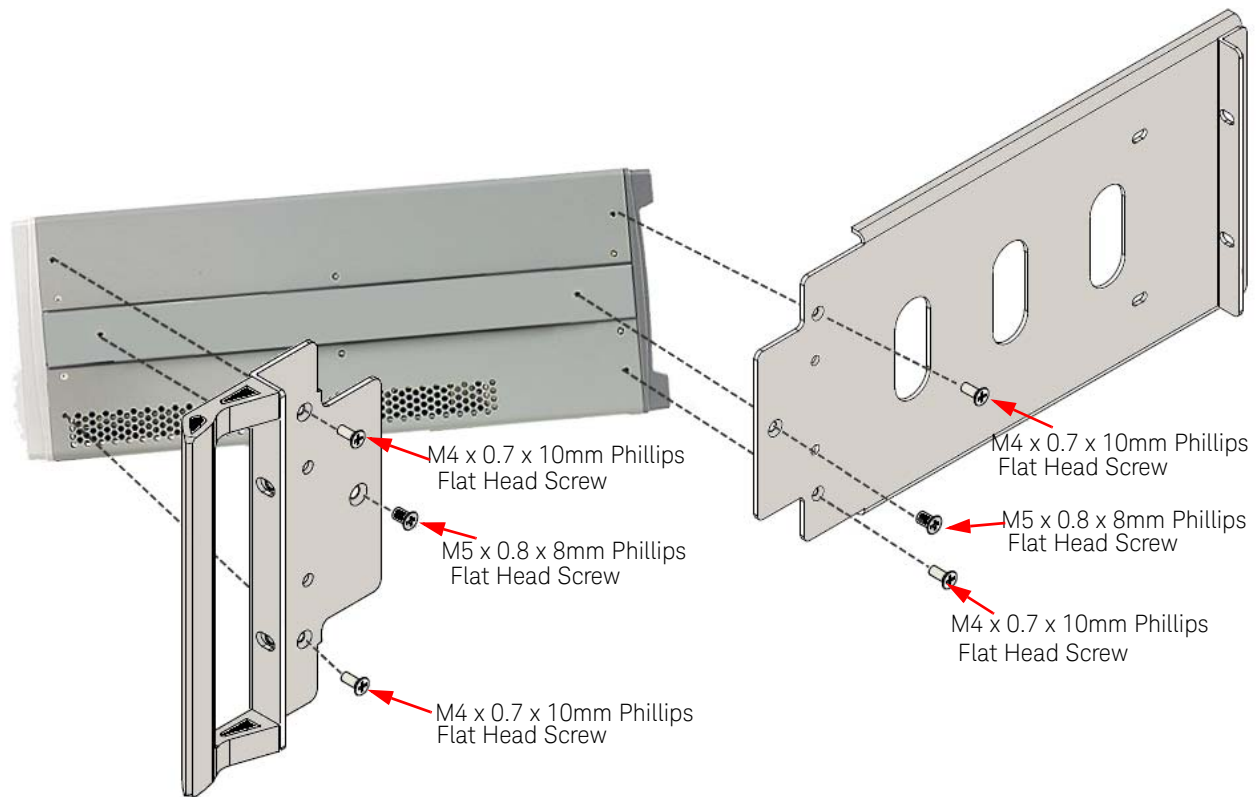

Figure 4 Mounting the front and rear brackets to the M9018A chassis (Right side shown)
- 7** Attach the front and rear mounting bracket assemblies to the chassis. Refer to Figure 4.